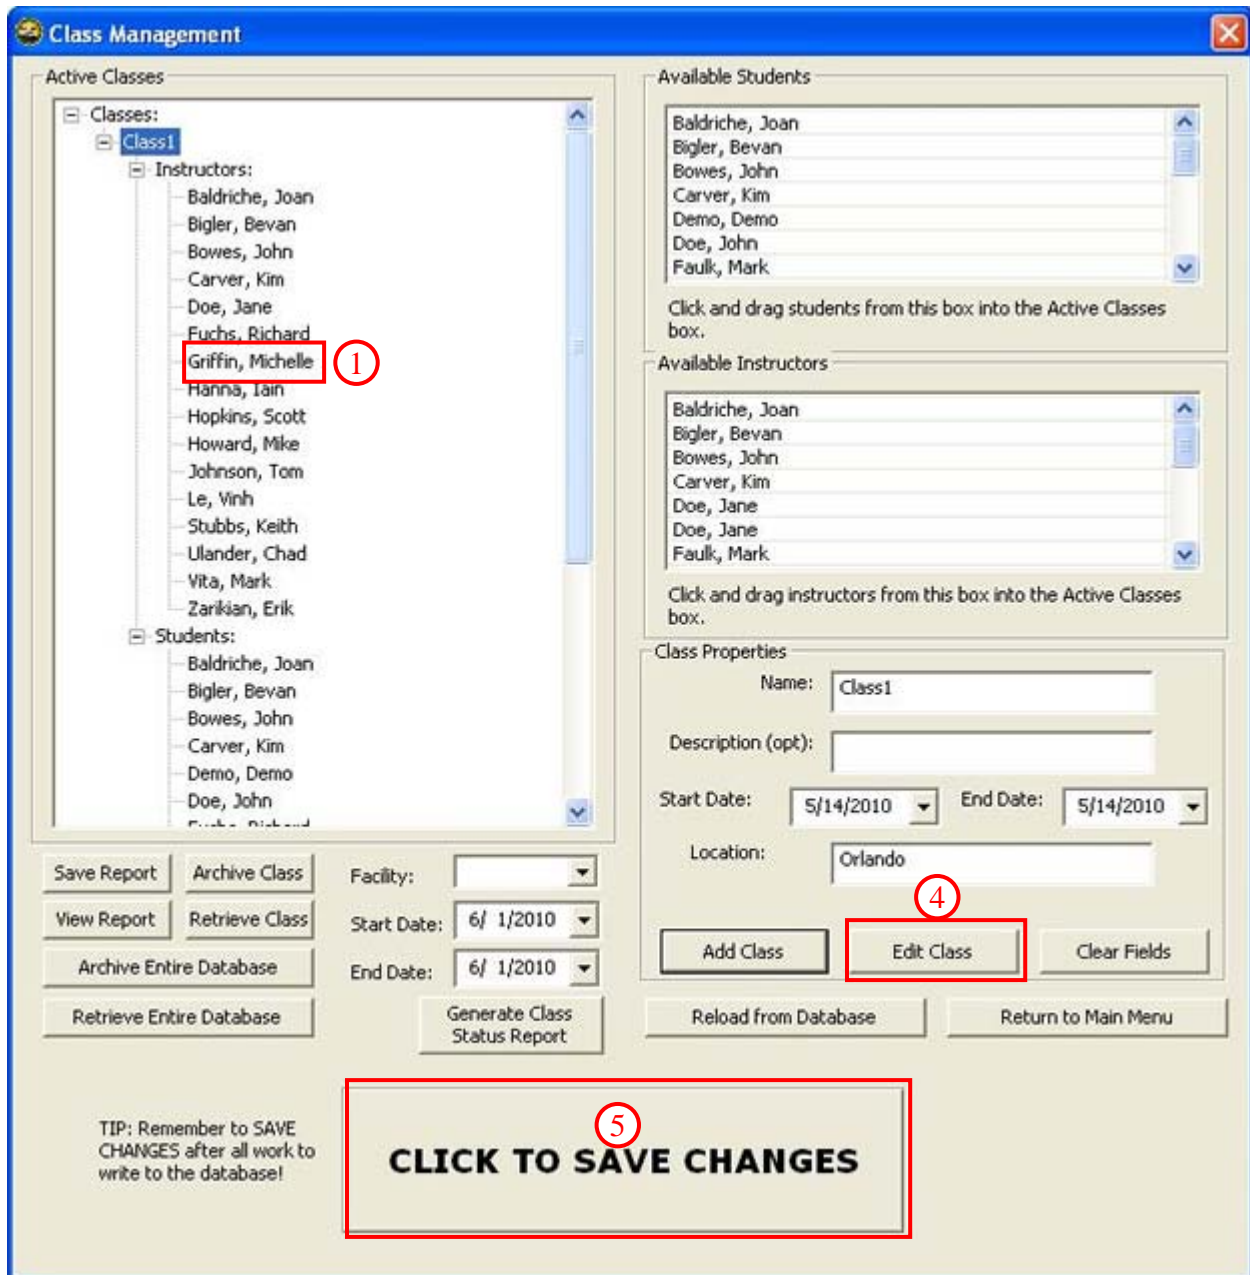

Figure 82. Class Management - Edit Class
1. Select a class, instructor or student from the Active Classes list (Figure 82).